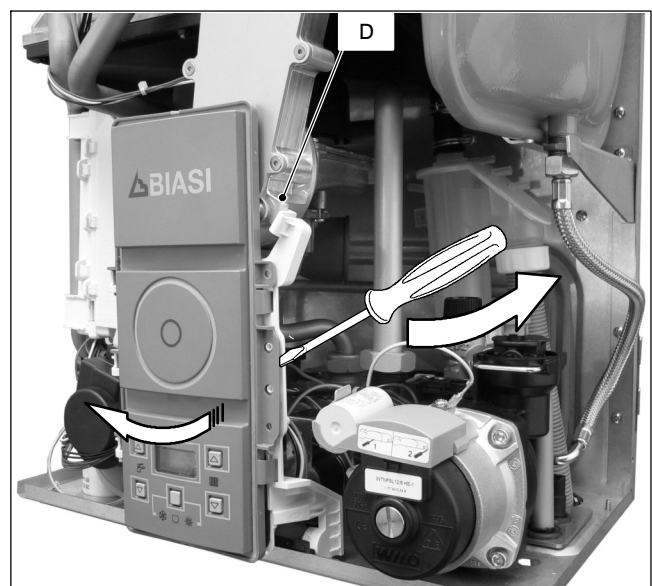
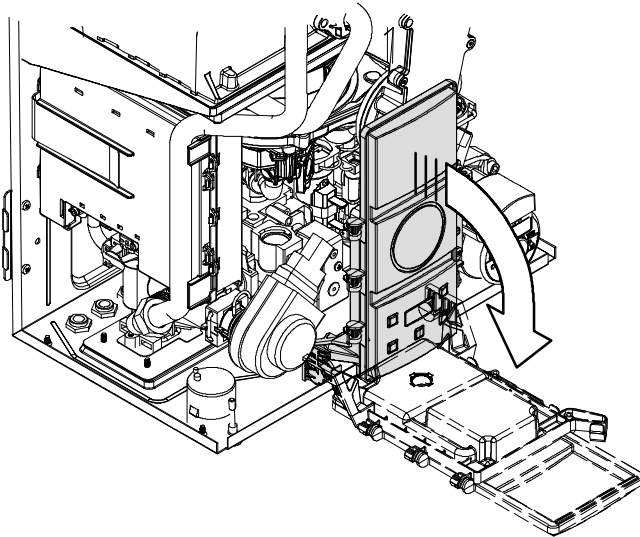

Fig. 2.4
Fig. 2.5
- 2 To open the control panel by levering with a screwdriver in as shown in Fig. 2.4
- 3 To access to the parts located inside the control panel to free the hook D (Fig. 2.4) and turn it as shown in Fig. 2.5.